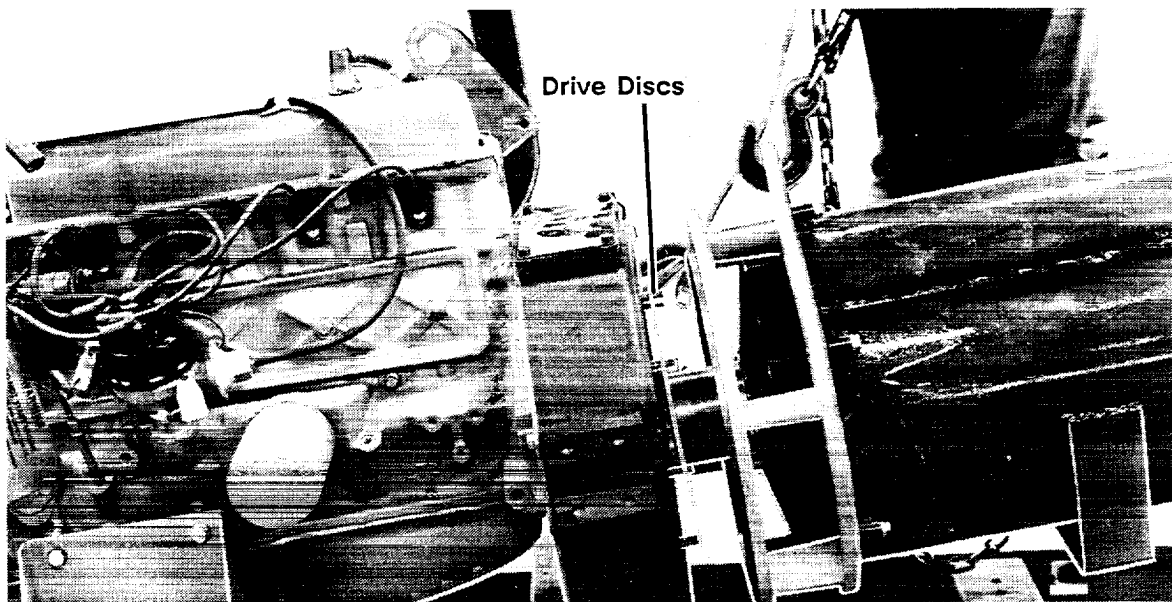

Figure 2. Separating Generator and Engine
7. Work drive discs over studs to separate generator from engine. See Figure 2.